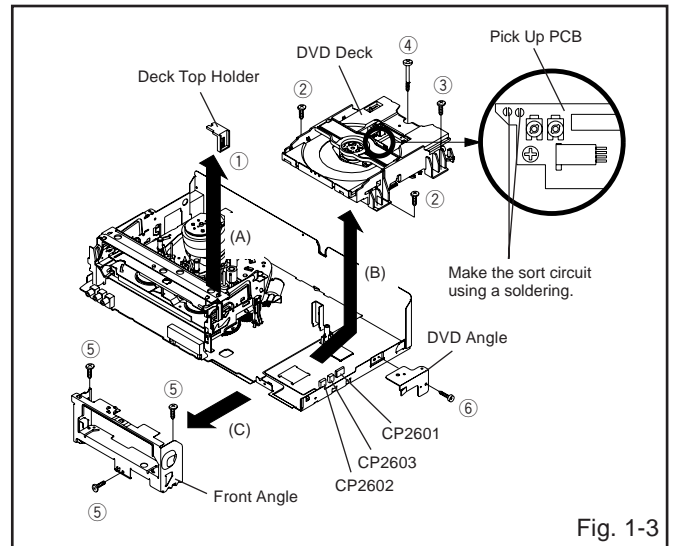

Fig. 1-3
1-3: DVD DECK (Refer to Fig. 1-3)
1. Make the short circuit on the position as shown Fig. 1-3 using a soldering. If you remove the DVD Deck with no soldering, the Laser may be damaged.
2. Unlock the support ① and remove the Deck Top Holder in the direction of arrow (A).
3. Remove the 2 screws ②.
4. Remove the screw ③.
5. Remove the screw ④.
7. Remove the DVD Deck in the direction of arrow (B).
8. Remove the 3 screws ⑤.
9. Remove the Front Angle in the direction of arrow (C).
10. Remove the screw ⑥.